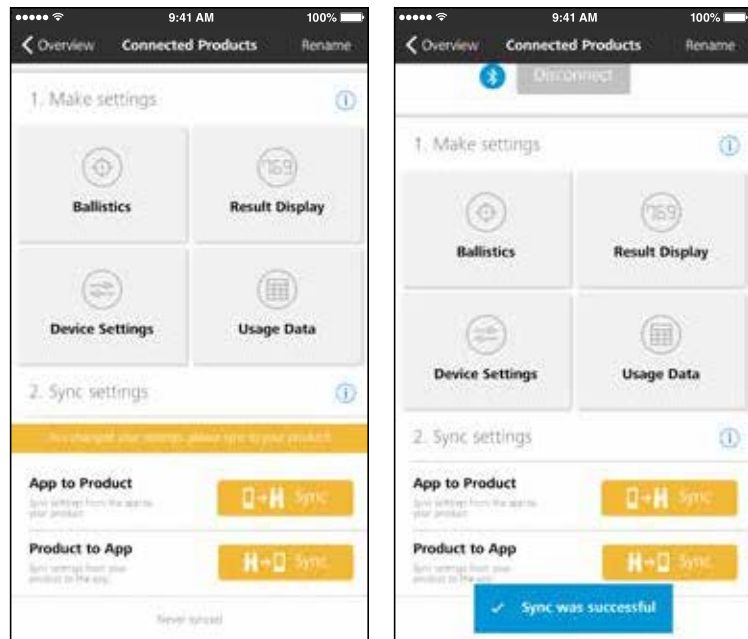

Fig. 18
- b. Select the “App to Product” sync button to allow the transfer of ZHA data to the VRF on-board computer memory. (Successful syncing is confirmed via the pop-up “Sync was successful.” If you do not see this, repeat previous steps for proper syncing.) **(Fig. 18)**